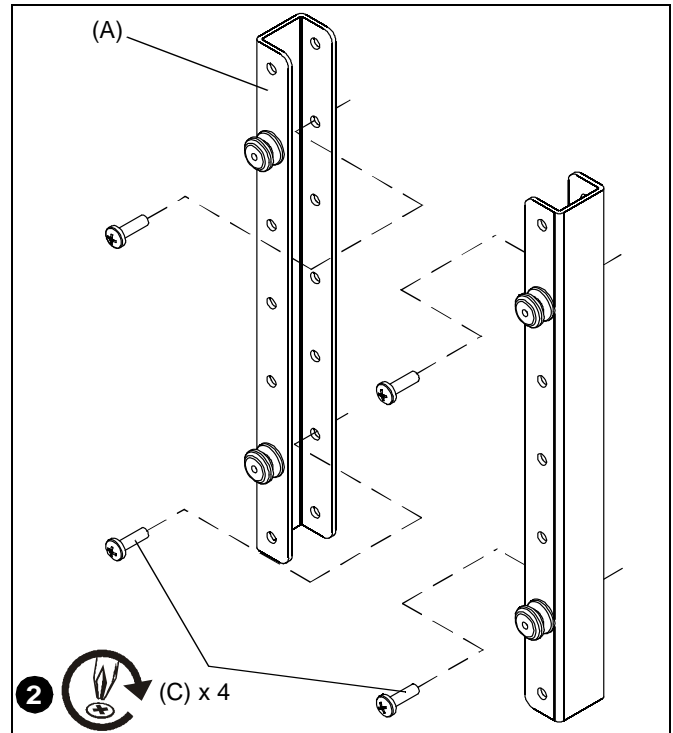

Figure 2
2. Attach the interface brackets (A) to the display using four M6 x 20mm Phillips screws (C) and the 1/8" hex key (E). (See Figure 2)